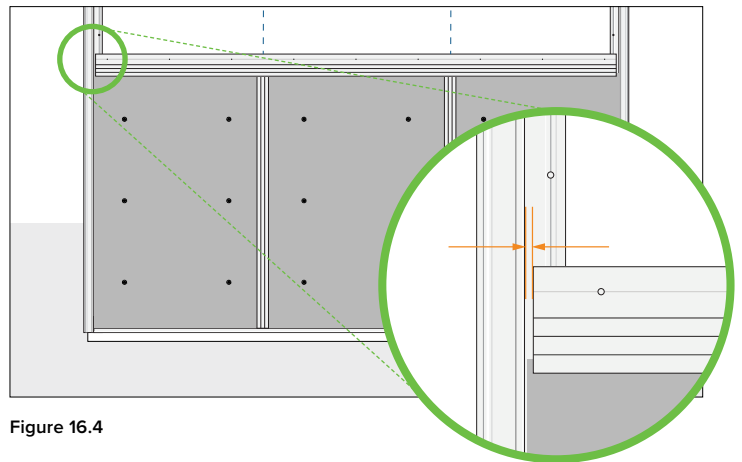

Figure 16.4
15. Leave a 1/16" gap between the end of any horizontal trim and the EZ.Bump® (Figure 16.4). Install next rows using the same install instructions as the first.